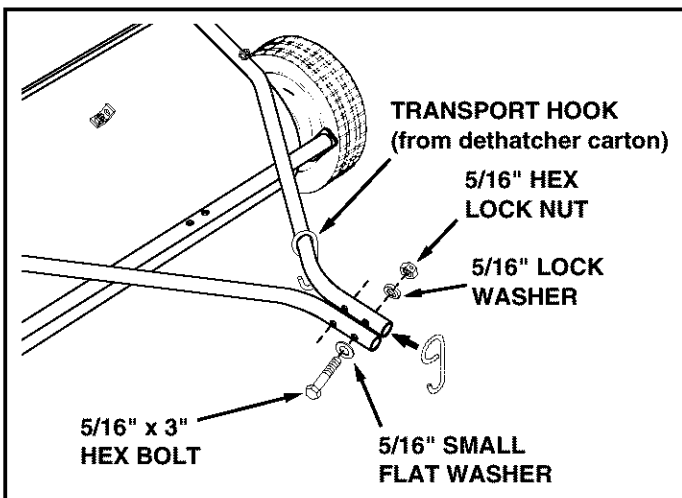

FIGURE 2
- Assemble the transport hook (located in the dethatcher carton) onto the L.H. hitch tube. See figure 2.
- Fasten the hitch tubes together using two 5/16" x 3" hex bolts, 5/16" small flat washers, 5/16" lock washers and 5/16" hex lock nuts. **Do not tighten yet**. See figure 2.